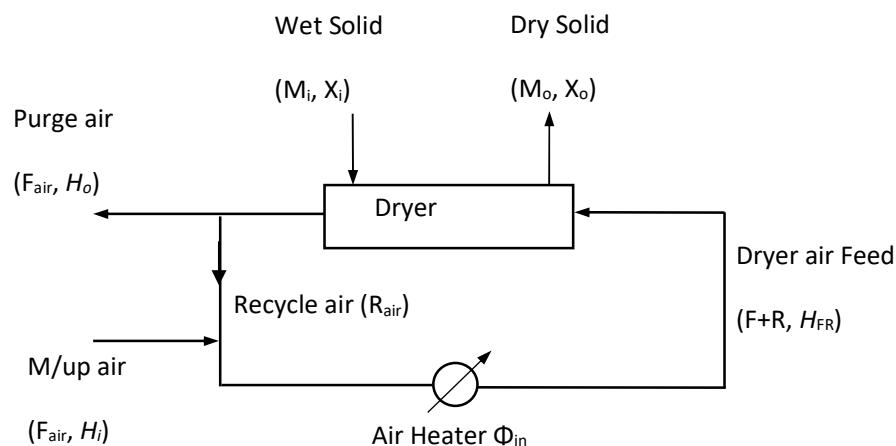

Figure 1 Schematic diagram of Dryer
- The configuration of the dryer is as depicted in Figure 1; the symbols are defined in the list of Notation below.